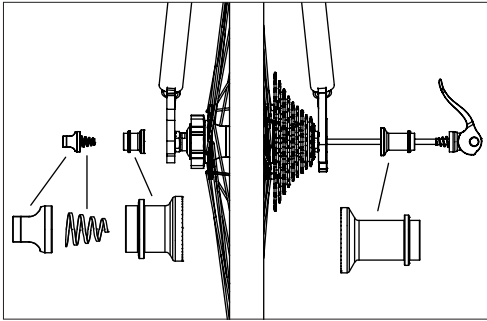

Fig. 39: Installing RackStand quick release.
1. Remove the original rear wheel quick release by unscrewing the end nut. Replace with RackStand quick release with spacers in order shown (Fig. 39). Tighten to proper tension (page 44).